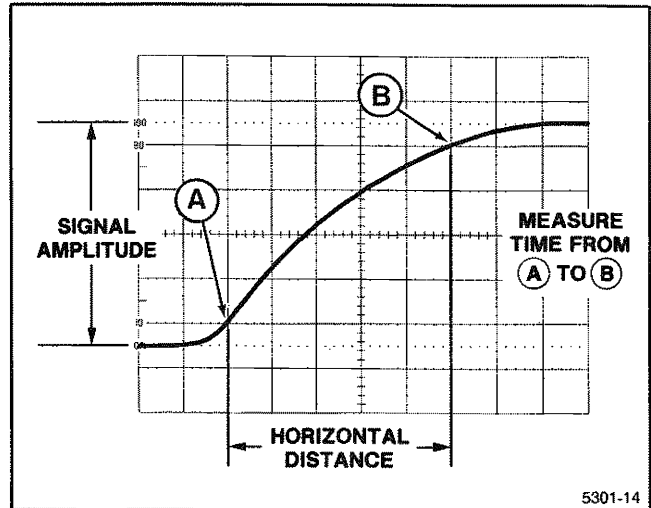

Figure 6-6. Rise time.
Rise-time measurements use the same methods as time duration, except that the measurements are made between the 10% and 90% points on the leading edge of the waveform (see Figure 6-6). Fall time is measured between the 90% and 10% points on the trailing edge of the waveform.
4. Adjust the vertical positioning so that the zero reference of the waveform touches the 0% graticule line and the top of the waveform touches the 100% graticule line (see Figure 6-6).
6. Horizontally position the display so the 10% point on the waveform intersects the second vertical graticule line (see Figure 6-6, Point A).
EXAMPLE: The horizontal distance between the 10% and 90% points is 5 divisions (see Figure 6-6), and the SEC/DIV switch is set to 1 μs . The X10 magnifier knob is pushed in (X1 magnification).